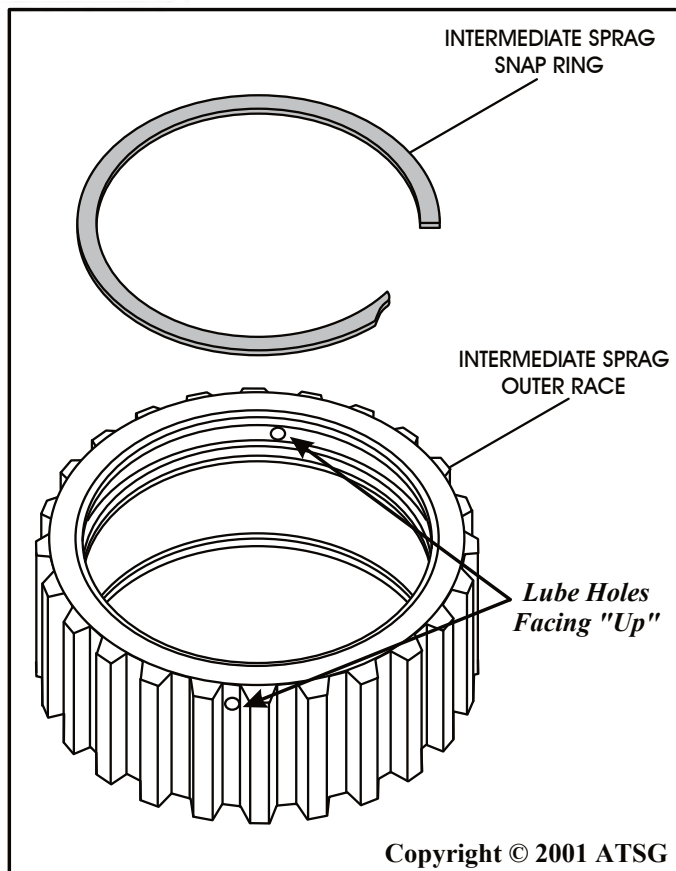

Figure 104
4. Place the sprag outer race on a flat work bench with the ***lube holes facing up***, as illustrated in Figure 104.
CAUTION: The sprag outer race must be placed in this position during assembly as outside splines are cut off-set and will not assemble into the intermediate clutch plates even though the outer race freewheels in the proper direction (See Figure 104).
5. Install one snap ring into the bottom groove in the sprag outer race, as shown in Figure 104.